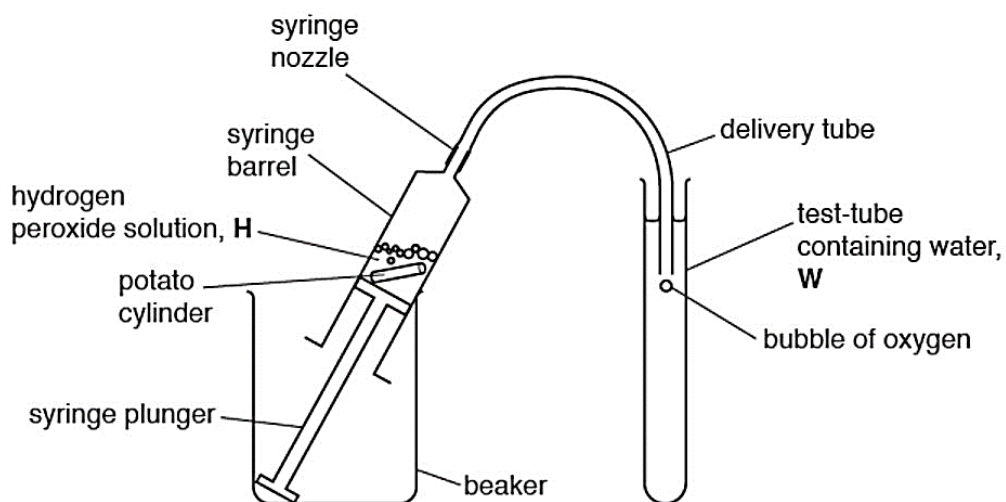

Fig. 1.1
You will use the apparatus as shown in Fig. 1.1.
- (iv) Describe how you will standardise the position of the delivery tube in the test-tube of water, as shown in Fig. 1.1.
- 4 Set up the test-tube with **W** and the delivery tube, as shown in Fig. 1.1 and described in (a)(iv). Do **not** attach the tubing to the syringe. You may stand the test-tube in the test-tube rack provided.
- 14 Put the syringe into a beaker as shown in Fig. 1.1 (page 4).